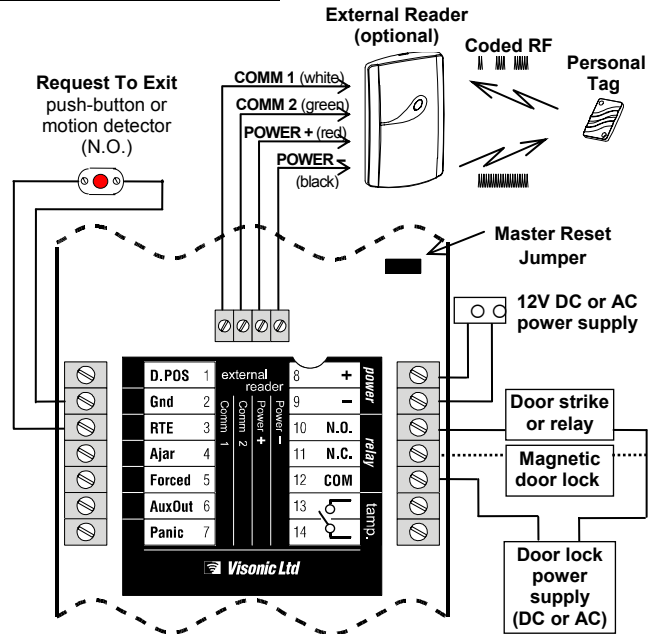

Figure 5. Wiring Diagram for Access Control
The connections to the TIAB terminal block are shown in fig. 5.
- Remove the Master Reset Jumper (fig. 5). The TIAB buzzer will start beeping.